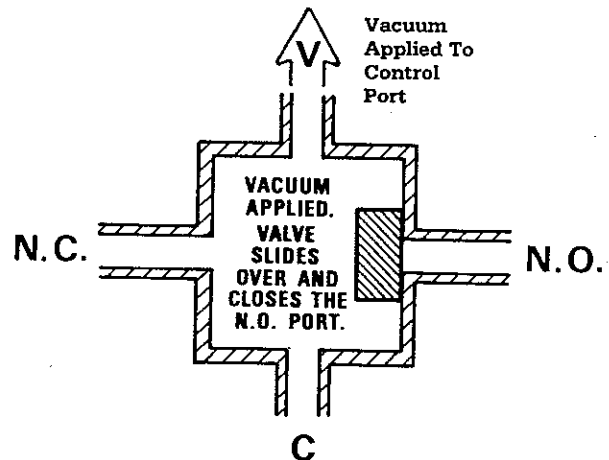

Figure 3
When a vacuum is applied to the control port labeled V, the Unilogic Gate changes states (see Figure 3). As vacuum is applied to the control port (V), the valve moves over the normally open port and shuts it off. Now the normally closed (NC) port and the common (C) port are connected. Two things to keep in mind are:
1. In the "rest" state, no vacuum is applied to the control port (V).
2. Only a vacuum applied to the control port (V) will cause the Unilogic Gate to change states.